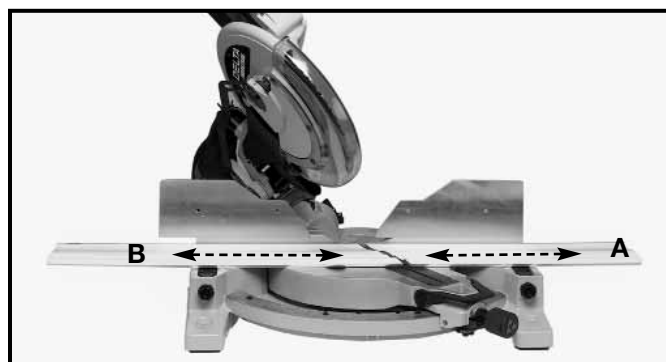
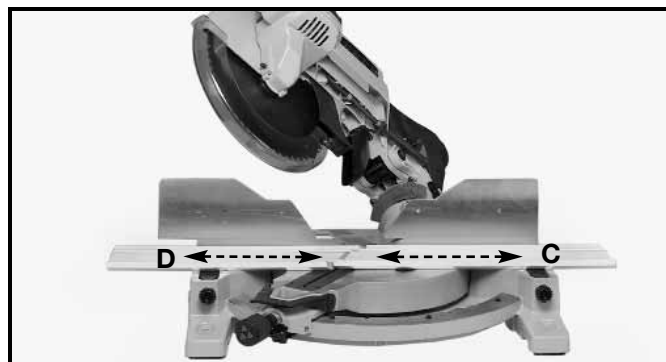
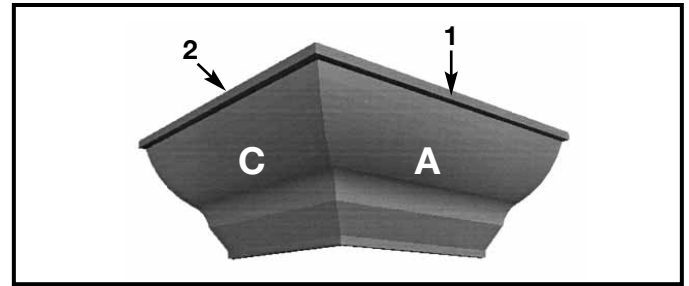
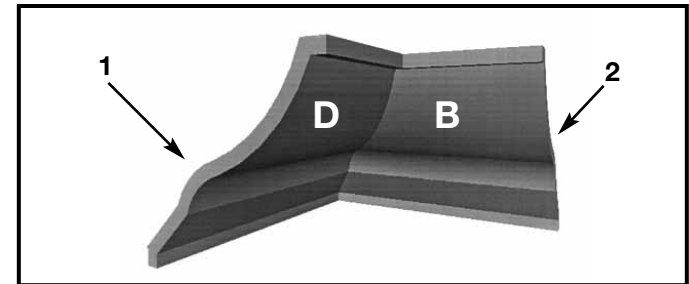

Fig. 47
Fig. 48
Fig. 49
Fig. 50
3. Place the crown moulding on the table with the **CEILING EDGE** of the moulding against the fence, and make the cut, as shown in Fig. 47.
NOTE: The piece of crown moulding used for the outside corner will always be on the right hand side of the blade, as shown at (A) Fig. 47. The piece of crown moulding used for the inside corner will always be on the left hand side of the blade, as shown at (B) Fig. 47.
5. Place the crown moulding on the table with the **WALL EDGE** of the crown moulding against the fence and make the cut. Again, the piece of crown moulding used for the outside corner will always be on the right side of the blade, as shown at (C) Fig. 48. The piece of crown moulding used for the inside corner will always be on the left side of the blade, as shown at (D) Fig. 48.
6. Fig. 49 illustrates the two outside corner pieces; (1) being the piece cut at (A) Fig. 47 and (2) being the piece cut at (C) Fig. 48.
7. Fig. 50 illustrates the two inside corner pieces; (1) being the piece cut at (B) Fig. 47, and (2) being the piece cut at (D) Fig. 48.